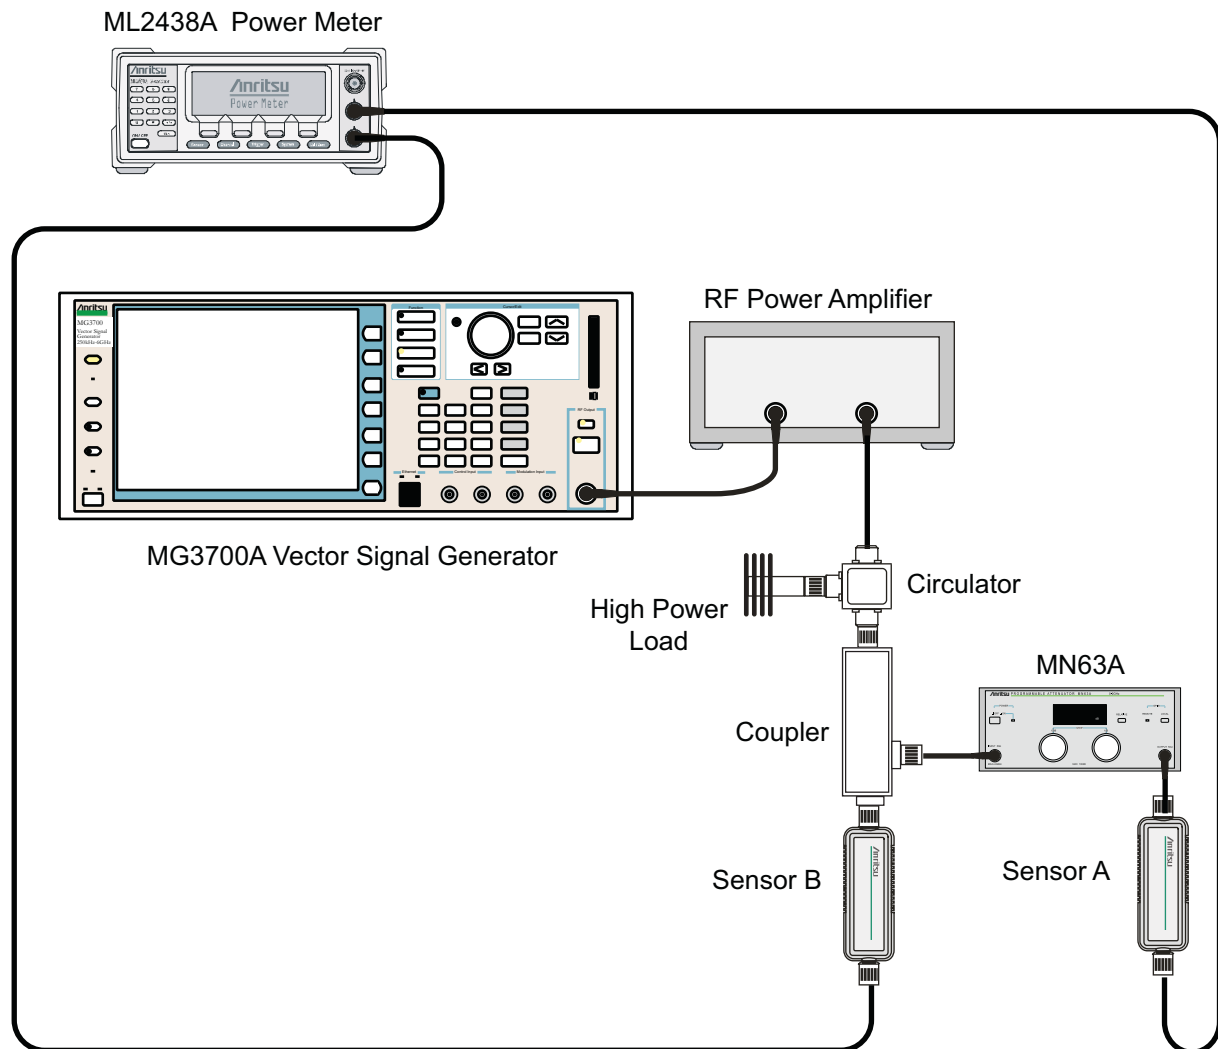

Figure 3-5. WCDMA/HSDPA Signal Analyzer, Characterization Setup
1. Connect the MG3700A, RF power amplifier, circulator, load, coupler, and programmable attenuator as shown in Figure 3-5.
3. Connect the power sensors to the power meter and then zero the sensors. Then connect the sensors as shown in Figure 3-5.
4. Press the **On/Off** key to turn on the MS2720T and wait until the measurement display appears. Then press the **Shift** key, and press the **Mode** (9) key to activate the mode selection menu.
6. Press the **Shift** key, the **Preset** (1) key, and then the Preset submenu key.